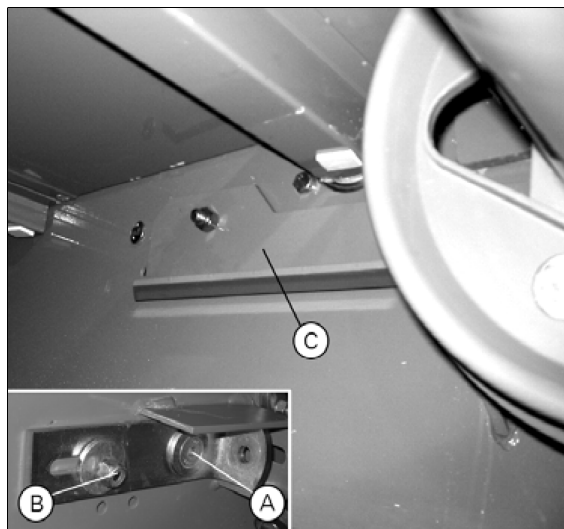

Fig. 2.
4. Unscrew the bolt (A) (fig. 2) in the side of the main crop elevator and dismount the bearing bracket.